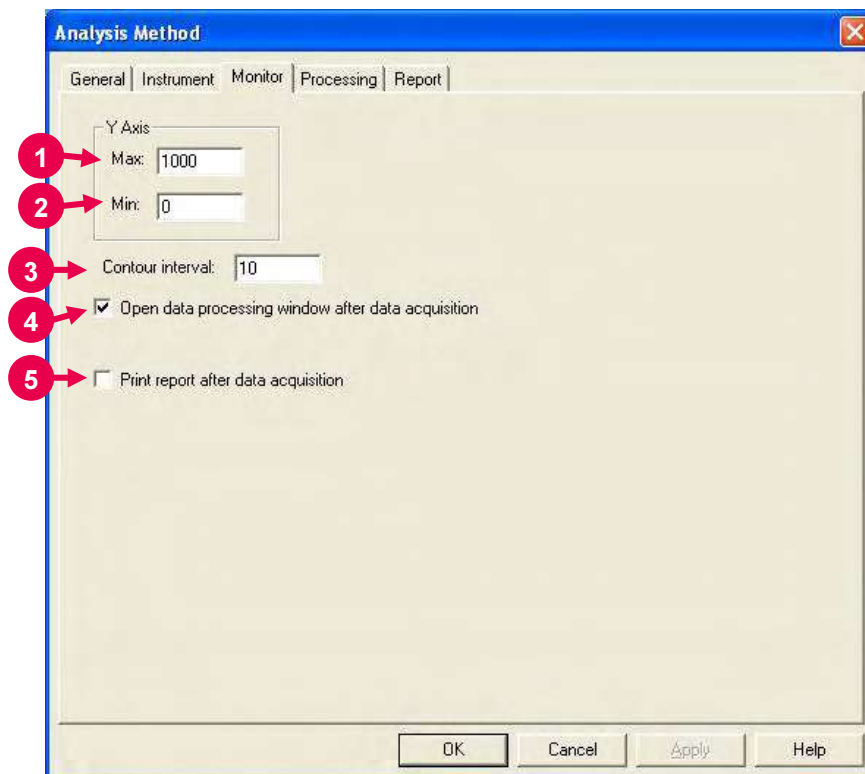
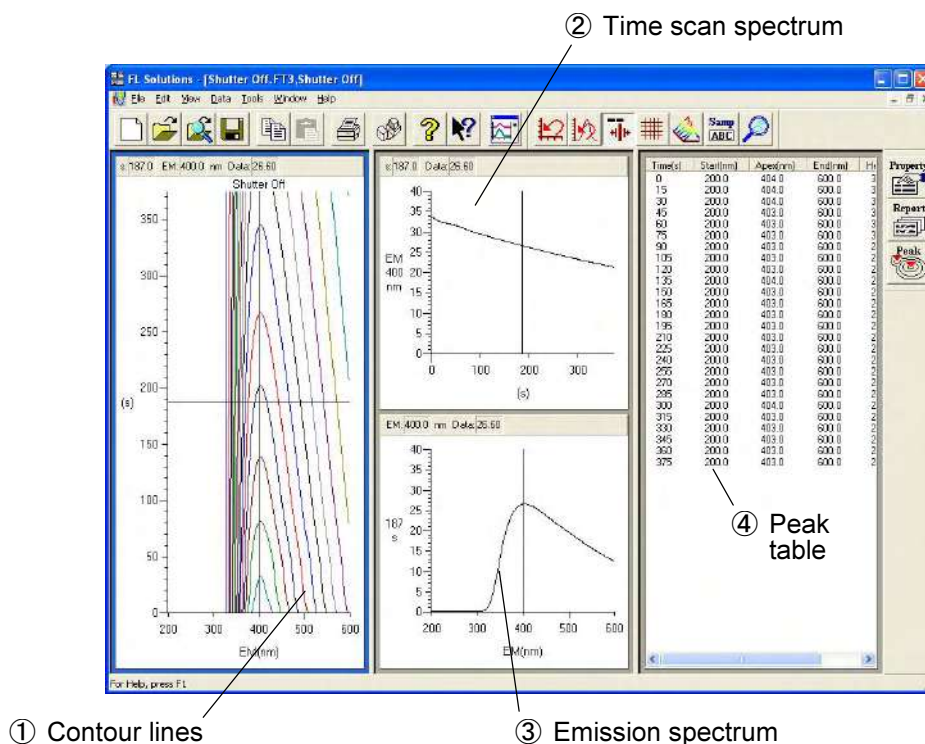

Fig. 6-5 Monitor Tab
Fig. 6-10 Data Processing Window (3-D time scan)
When selecting the Monitor tab, the window in Fig. 6-5 appears. For the settable range of each parameter, refer to Appendix G.
- (4) When measurement is completed, the data processing window appears as shown in Fig. 6-10. This is available only when a check mark is put for “Open data processing window after data acquisition” at the ‘Monitor’ tab of Analysis Method. (See ④ in Fig. 6-5.)
- (1) Click on the spectrum window, and the circumference turns blue. In this status, select the Print command from the File menu.
Or click the  (print) button on the toolbar. The field active on the data processing window (e.g., ① in Fig. 6-10) will be printed. What is displayed by clicking the Print Preview command in the File menu will be printed.